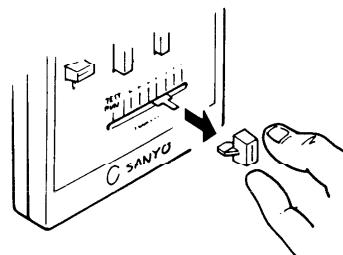

Fig. 38
- a) Pull off the thermostat knob. Fig. 38